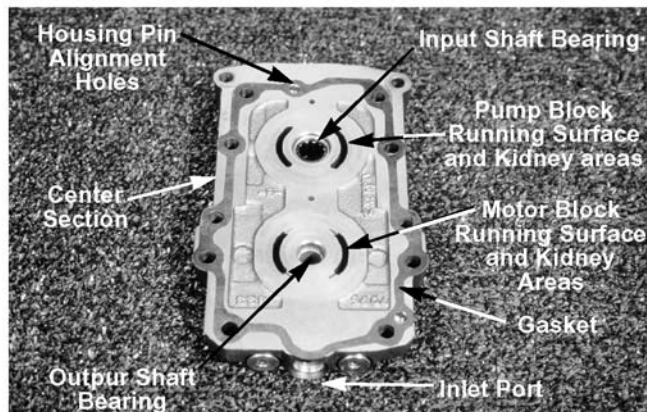

Figure 5-19.
- H. Housing pin alignment holes. See Figure 5-19.